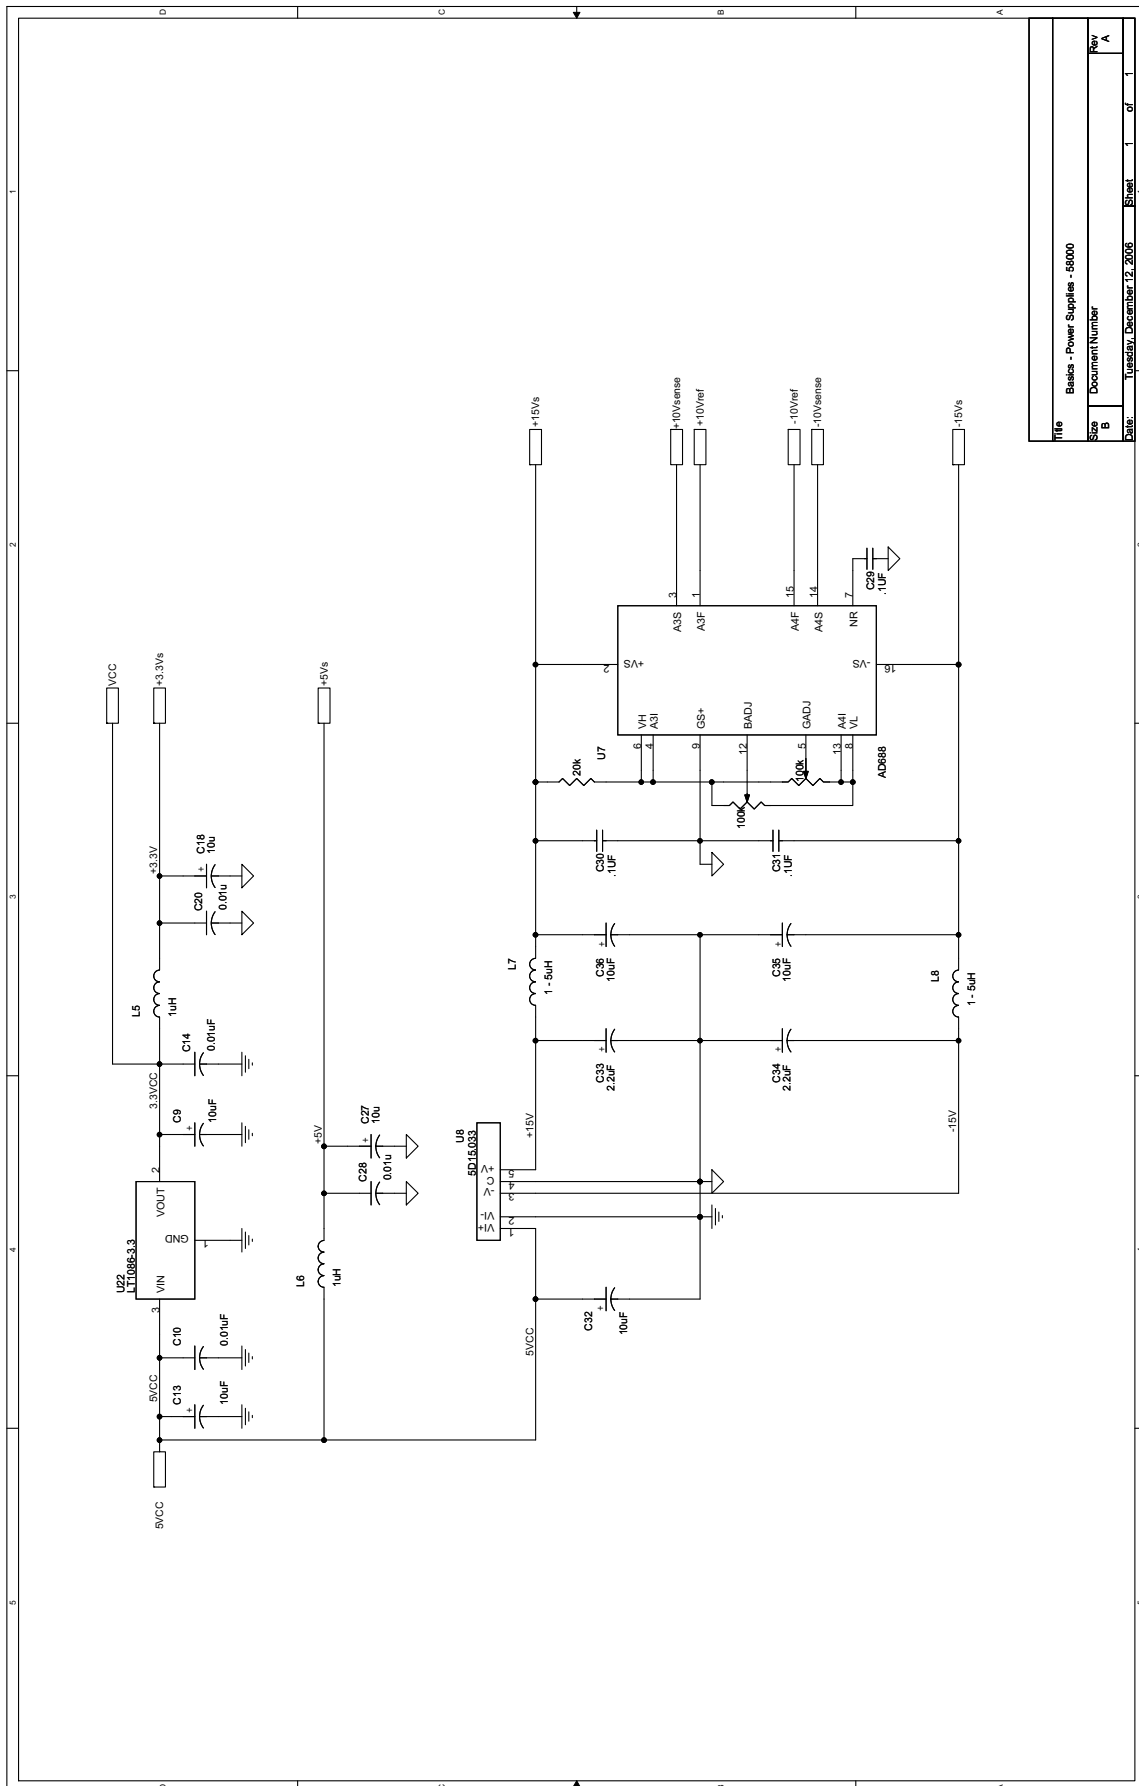

Figure 6-1:
In the schematic shown in Figure 6-1, the design is powered by an external 5V DC power source. The MC58000 device requires a 3.3V supply and an optional 5V input. The 5V input to the motion processor can be omitted if 5V is not required elsewhere in the design. The 3.3V digital supply, VCC, is generated by an LT1086-3.3, a 1.5Amp fixed 3.3V low-dropout voltage regulator. Components with a larger power capacity are also available, such as the LT1085-3.3.
- The schematic in Figure 6-1 should be used for reference only. The actual supplies used should be designed according to the stability and precision requirements of the application. The power supplies presented here are only designed to meet the requirements of the example schematics.